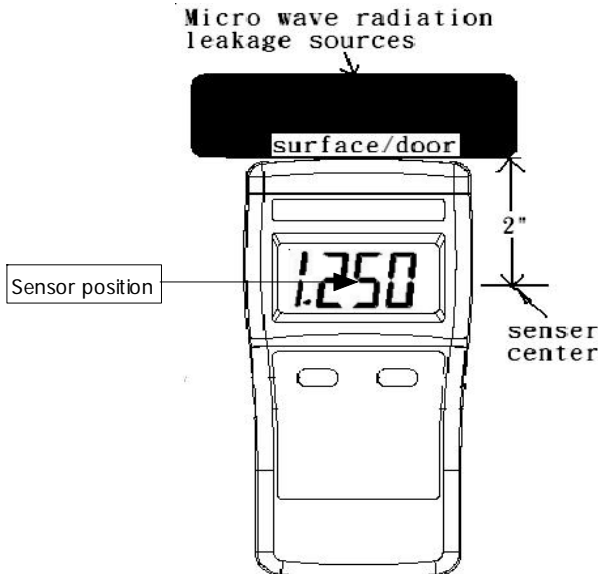

Fig. 2
- 1) Slide the power switch (3-2, Fig. 1) to " On " position, " Display " (3-1, Fig. 1) will indicate the EMF value that sensing from the sensor, refer to Fig. 2.